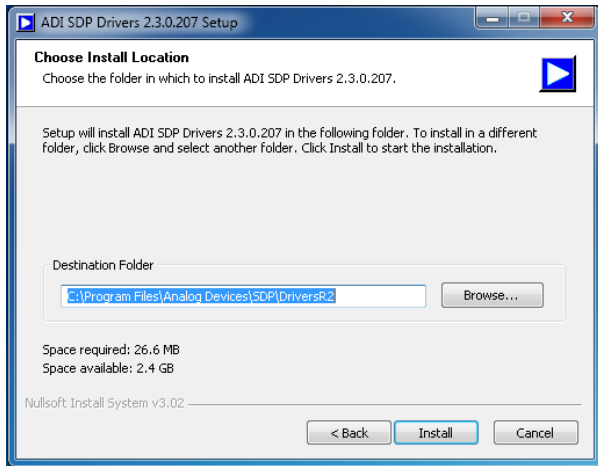

Figure 13. Choose Install Location
3. Choose the destination folder for the ADI SDP drivers and click **Install**. The default folder is shown in Figure 13.